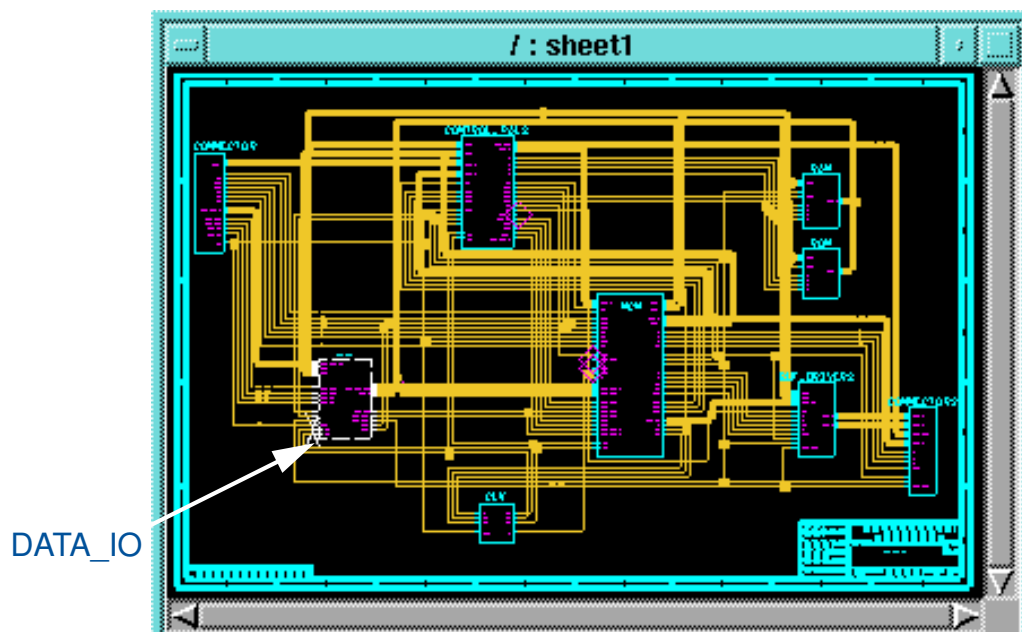

Figure 3-28. DATA_IO Component Location
5. Select the **DATA_IO** component, then choose the **File > Open > Down** menu item. Figure 3-28 shows where the **DATA_IO** component is located.